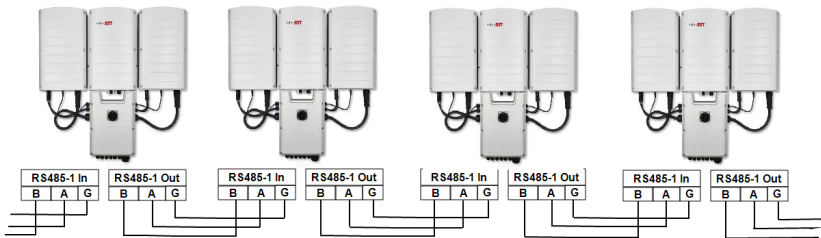

Figure 41: Connecting the inverters on a bus
- Insert the wire ends into the **G**, **A** and **B** pins shown above. Use one terminal block for the previous inverter in the bus and the other terminal block for the next inverter in the bus, as shown in *Figure 41*.